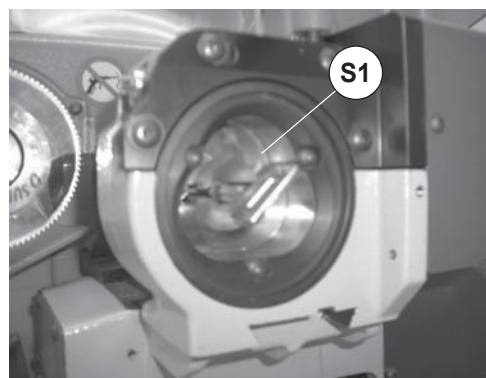
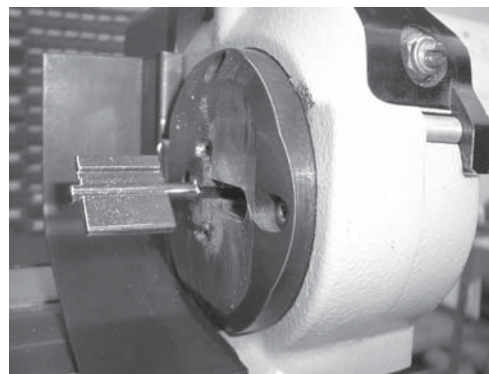

Fig. 54
Fig. 55
- 4) Fit the key blank into the rotating clamp (S1) from the front, positioning the square stem over the "V" on the grips diagonally so that the left-hand bit is sloping downwards (fig. 54 and fig. 55).
- 5) Close the mobile clamp jaws slightly, using the T wrench already in the screw (V1), without gripping the key stem; move the rotating clamp (G) towards the tailstock, keeping a minimum safety distance of 10 mm between the rotating clamp jaws and the rear limit of the bit. Secure the rotating clamp in position by means of knob (T1).
- 7) Fit the key blank into the rotating clamp (S1) from the front, positioning the square stem over the "V" on the grips diagonally so that the left-hand bit is sloping downwards (fig. 54 and fig. 55).
- 8) Use the 'T' wrench, already on the screw (V1), to slightly tighten the grips on the rotating clamp, without exerting pressure on the key stem; move the rotating clamp (G) towards the tailstock, keeping a minimum safety distance of 10 mm between the grips on the rotating clamp and the rear end of the bit. Secure the rotating clamp by tightening the knob (T1).